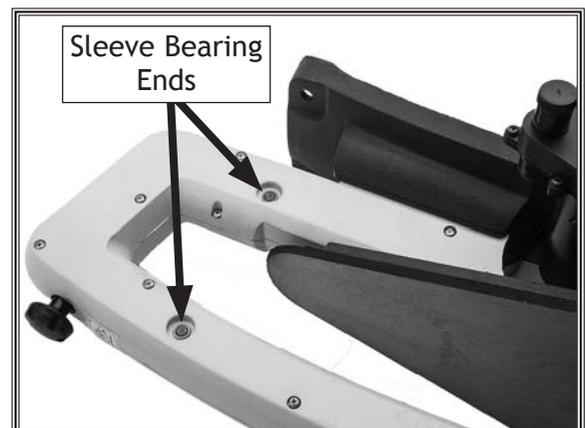

Figure 32. Plastic caps removed to expose sleeve bearing ends.
2. Remove plastic caps to expose sleeve bearing ends (see **Figure 32**).